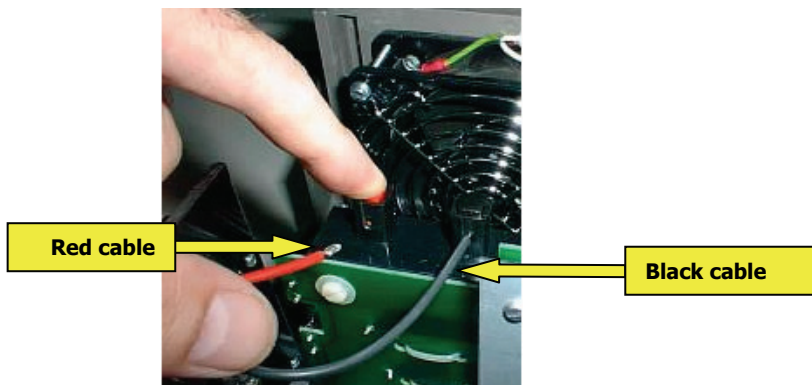

Figure 129 Connecting the cables
13. Connect both electrode cables by depressing the connector, inserting the cable, and releasing the connector, as shown in Figure 129.